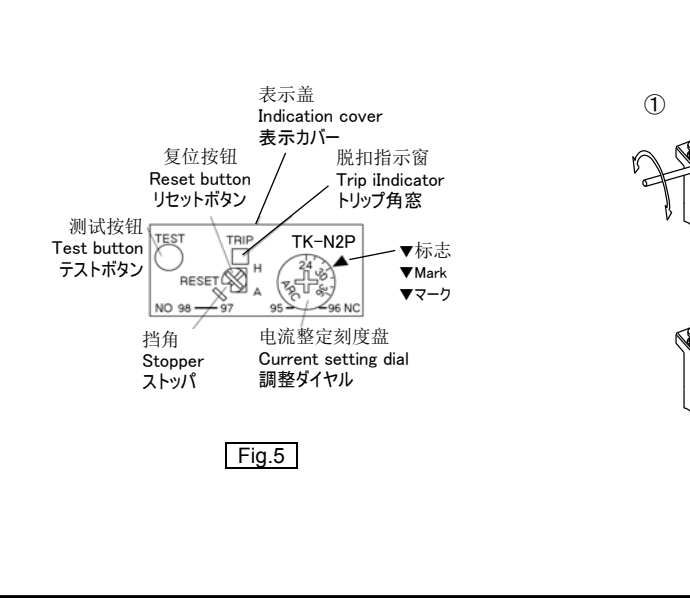

Fig.5
- (1) 在刻度范围内转动电流调整刻度盘，与 ▼ 标志对齐的电流值即为电动机全负载电流。(Fig.5)
而且， 如果按测试按钮， b 触头 (95—96) 会离开， 放开的话就再次闭合。(Fig.5)
- (1) Turn the current setting dial within the scale so that the full load current of the motor is at the ▼ mark (Fig. 5). Do not use beyond the scale, or the expected performance cannot be obtained.
- (2) By pulling the test button, checking of control circuit wiring can be done. If it is depressed only the NC contact (95-96) is opened. If it is released, the NC contact is closed again. (Fig. 5)
- (3) When the thermal overload relay operates, the trip indicator displays a yellow sign. If the thermal overload relay is reset, indication disappears from the indicator. (Even if the thermal overload relay operates, the yellow sign dose not show in the trip indicator at automatic reset mode.) (Fig.5)
- (1) 調整ダイヤルを回して目盛りの範囲内で、 モータの全負荷電流を ▼ マークに合わせてください。(Fig. 5)
また、 テストボタンを押すと b 接点 (95—96) だけが離れ、 放すと b 接点が再び閉じます。(Fig. 5)